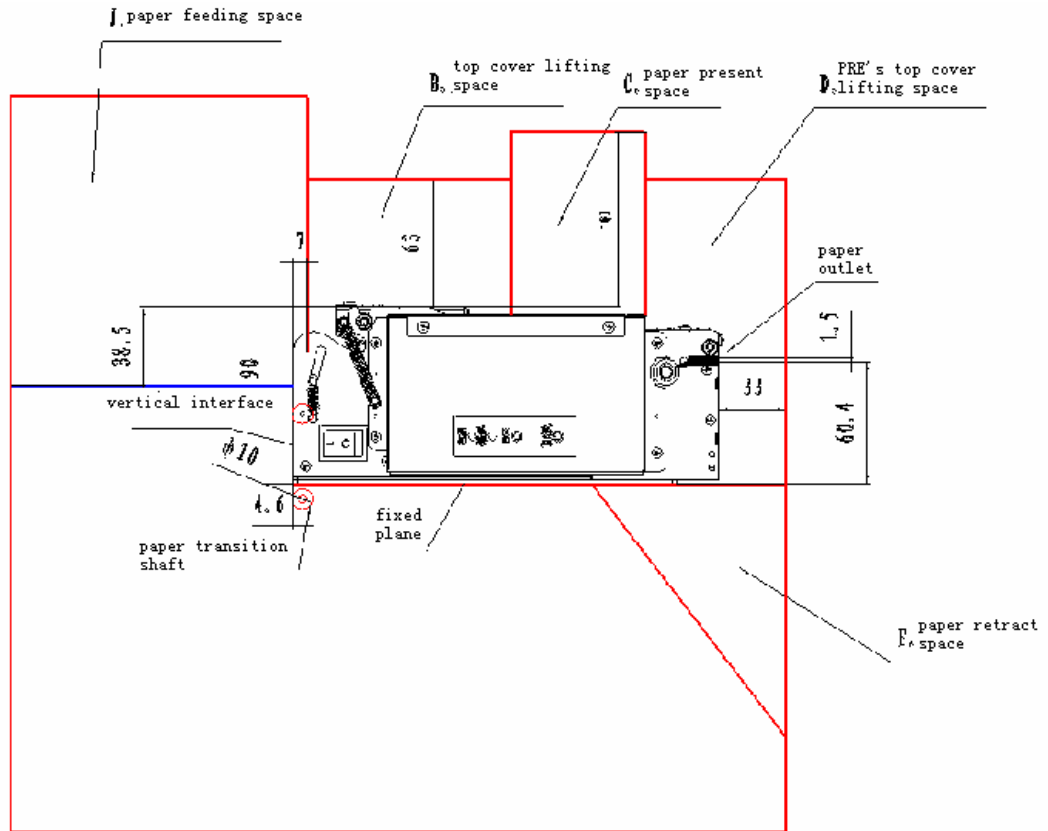
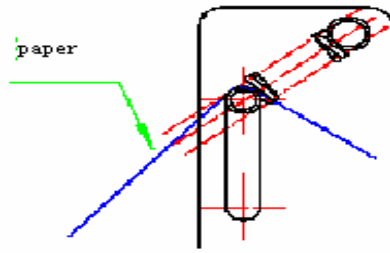

Figure 4.18 Structure without paper holder
Figure 4.23 Buffer explanation
- ◆J: paper feeding space allowed by the paper roll. If your printer doesn't have paper holder or the paper holder is made yourself, please consider the space. (figure 4.18) There is a blue line in the space. If paper feeding is controlled above the blue line, your printer is considered to be horizontal .Or else, it is vertical. For horizontal type, you had better control the paper roll above the space, mainly in order to use the buffer mechanism of print mechanism to avoid compression. For vertical type, Please add buffer mechanism to paper holder (as figure4.23). In addition, if paper feeding touches vertical critical interface (as figure4.18) , please add paper transition roller to the paper holder in order to avoid that paper touches metal parts directly , causing paper damaged.